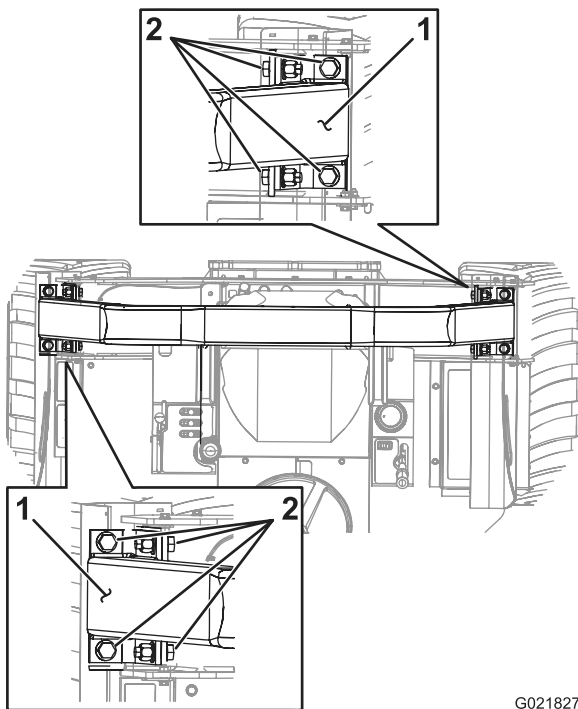

Figure 97
1. Check that the 8 bolts that secure the ROPS bar to the chassis of the machine are torqued to 24.4 to 26.1 N-m (216 to 231 in-lb); refer to Figure 97.